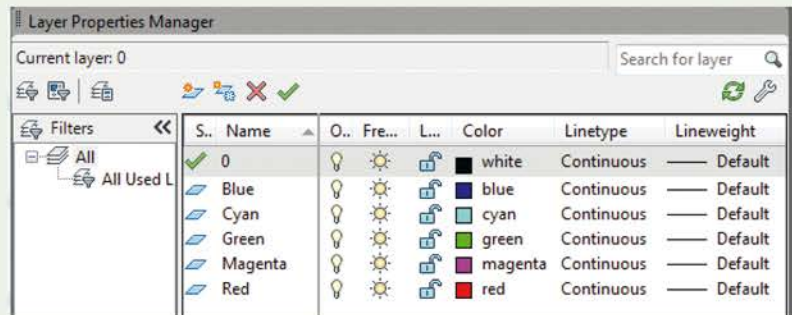

Fig. 9.5 The settings in the Layer Properties Manager
- (b) In the Layer Properties Manager that appears, make settings as shown in Fig. 9.5.